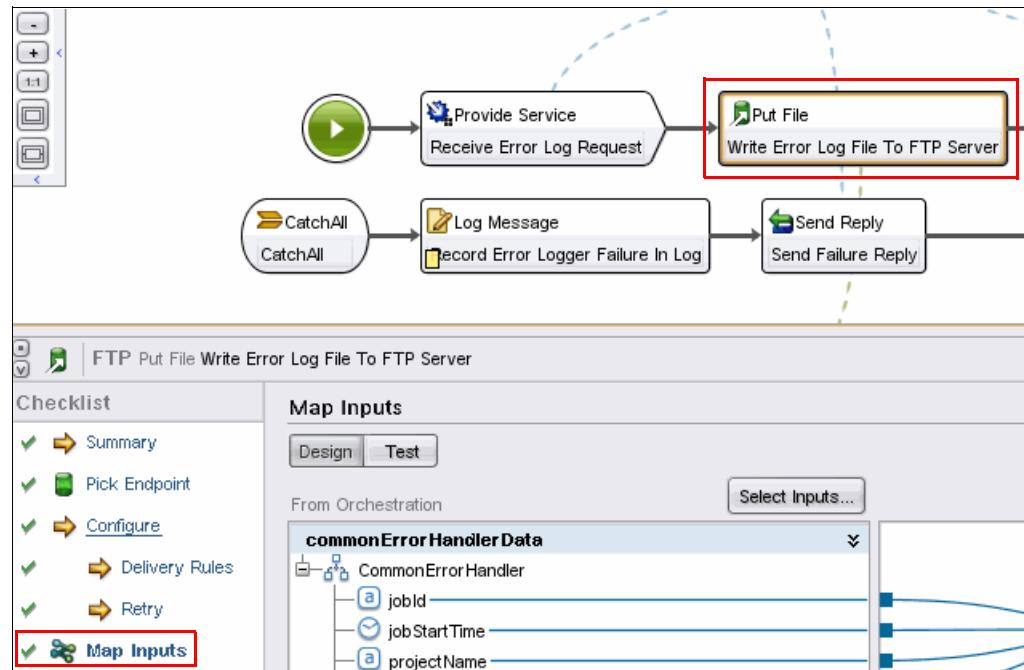
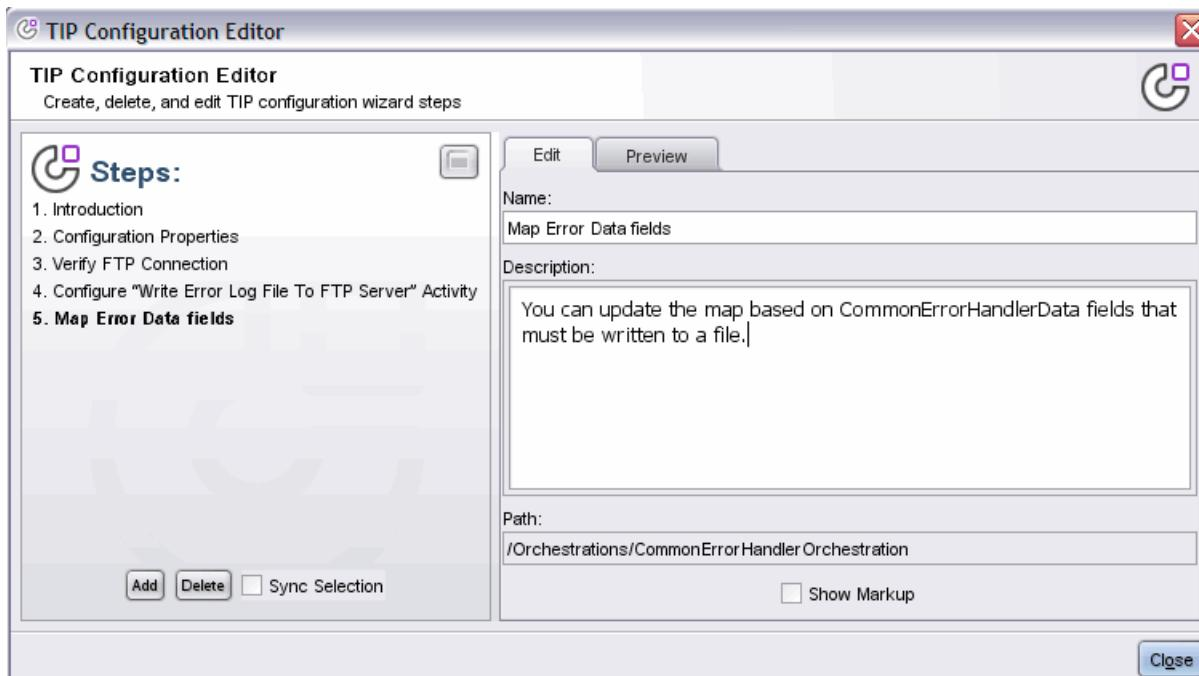

Figure 7-14 Select Map Inputs of the activity to drag to the steps
Figure 7-15 Map Error Data fields step
- a. Drag the Map Inputs task from the checklist of the "Write Error Log File To FTP Server" activity (Figure 7-14 on page 304) to the Steps panel (Figure 7-15 on page 304) to add a step with the name Map Inputs.
- Enter the instructions in the Description field, as shown in Figure 7-15.